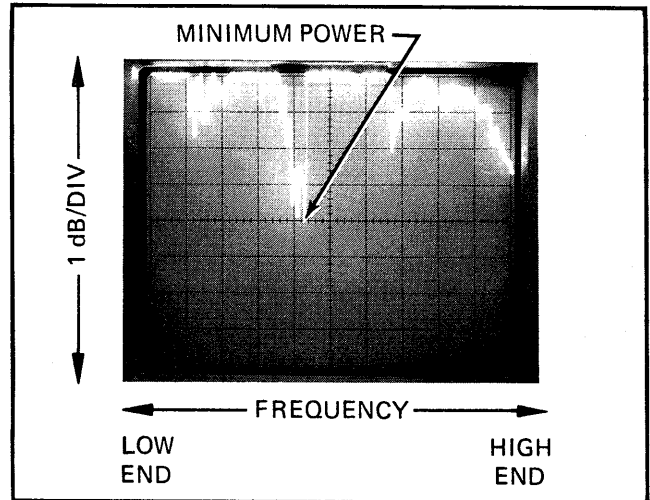

Figure 4-6. Unleveled Power
- On the network analyzer, adjust CHANNEL A OFFSET control to position the trace's minimum power point on the center graticule line; see Figure 4-6.